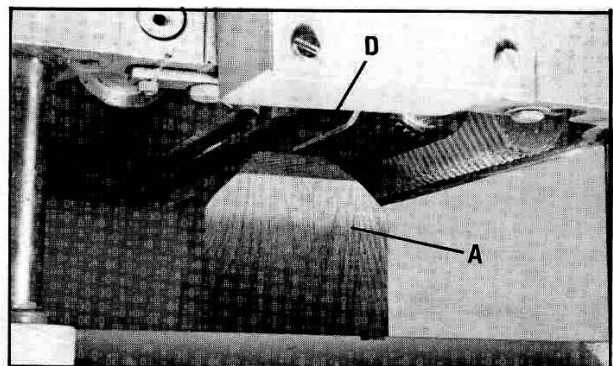

Fig. 55
4. Move the gage block (A) underneath the chipbreaker (D) as shown in Fig. 55. The bottom of the chipbreaker should just touch the top of the gage block. Check opposite end of chipbreaker in the same manner.